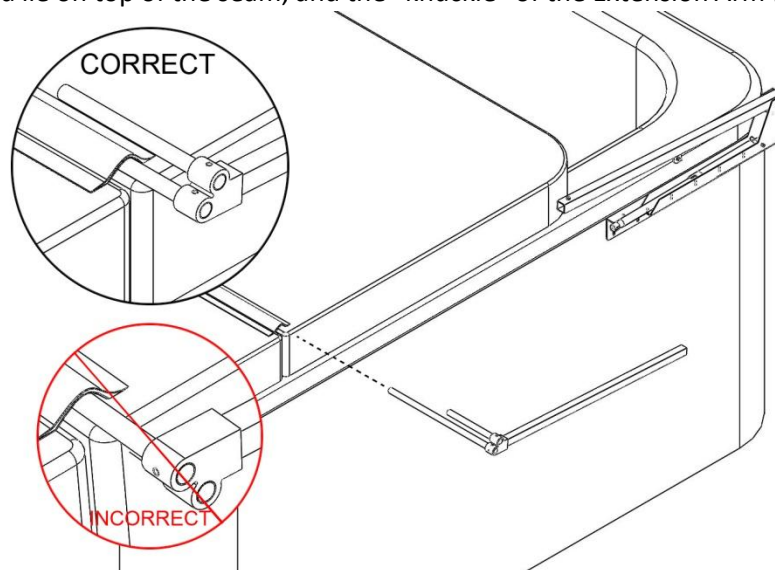

Figure 11
11. Slip the seam in the middle of the spa cover between the Fingers (cvEE) with the Extension Arm (cvDD) pointing towards the Pivot Arm (cvCC). The long Finger (cvEE) should slide under the seam, while the short Finger (cvEE) should lie on top of the seam, and the “knuckle” of the Extension Arm (cvDD) should be facing up. See Fig 11.